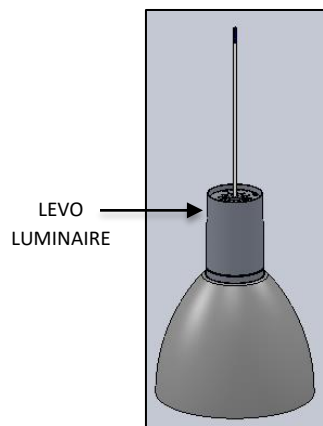

FIG. 2 LEVO LUMINAIRE (PRE-ASSEMBLED)
1. LEVO LUMINAIRE with CORD attached. (Pre-assembled as shown in FIG. 2)